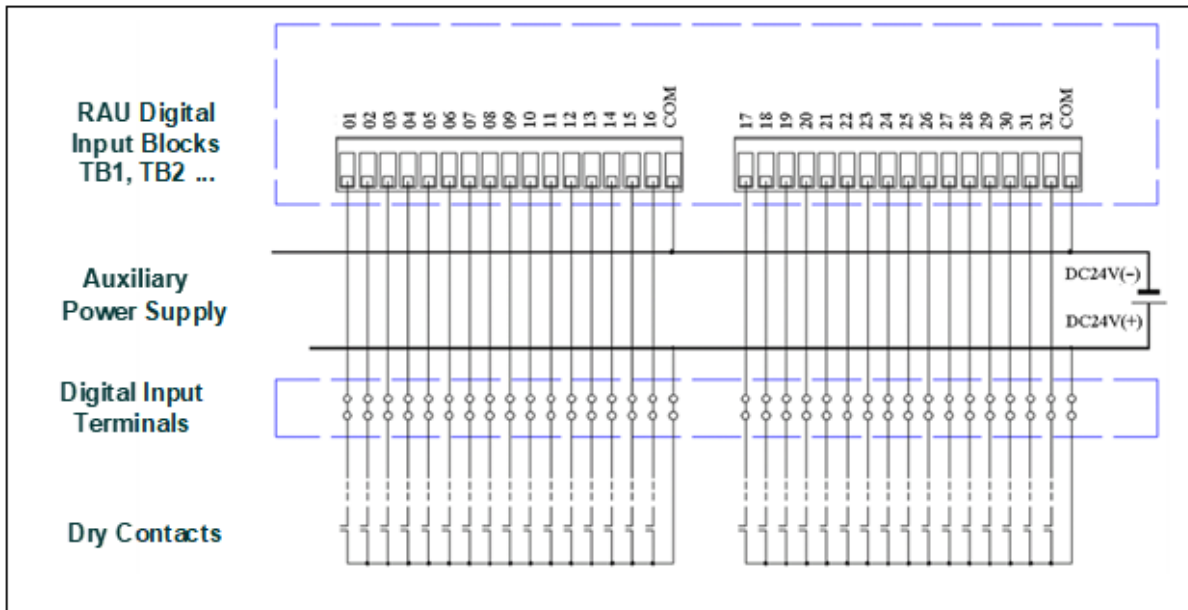

Figure 6.3-1 Digital Input Arrangement
Each Digital Input (DI) board provides 32 binary inputs grouped into two sets of 16 inputs, each sharing a common negative pole. The DI board input terminals are J1 and J2 (17-pin connectors with 3.5 mm spacing). Terminals 1–16 are signal inputs; terminal 17 is the common negative. The RAU-300 supports up to 4 DI boards, yielding $32 \times 4 = 128$ digital inputs in total. Figure 6.3-1 illustrates the wiring for a single DI board for clarity; additional boards follow the same scheme. The FTR-100 panel includes an external 24 VDC power supply, which provides excitation for the digital inputs. Current flows from the user's digital input common terminal, through the user's passive contacts, and into the digital input panel terminals.